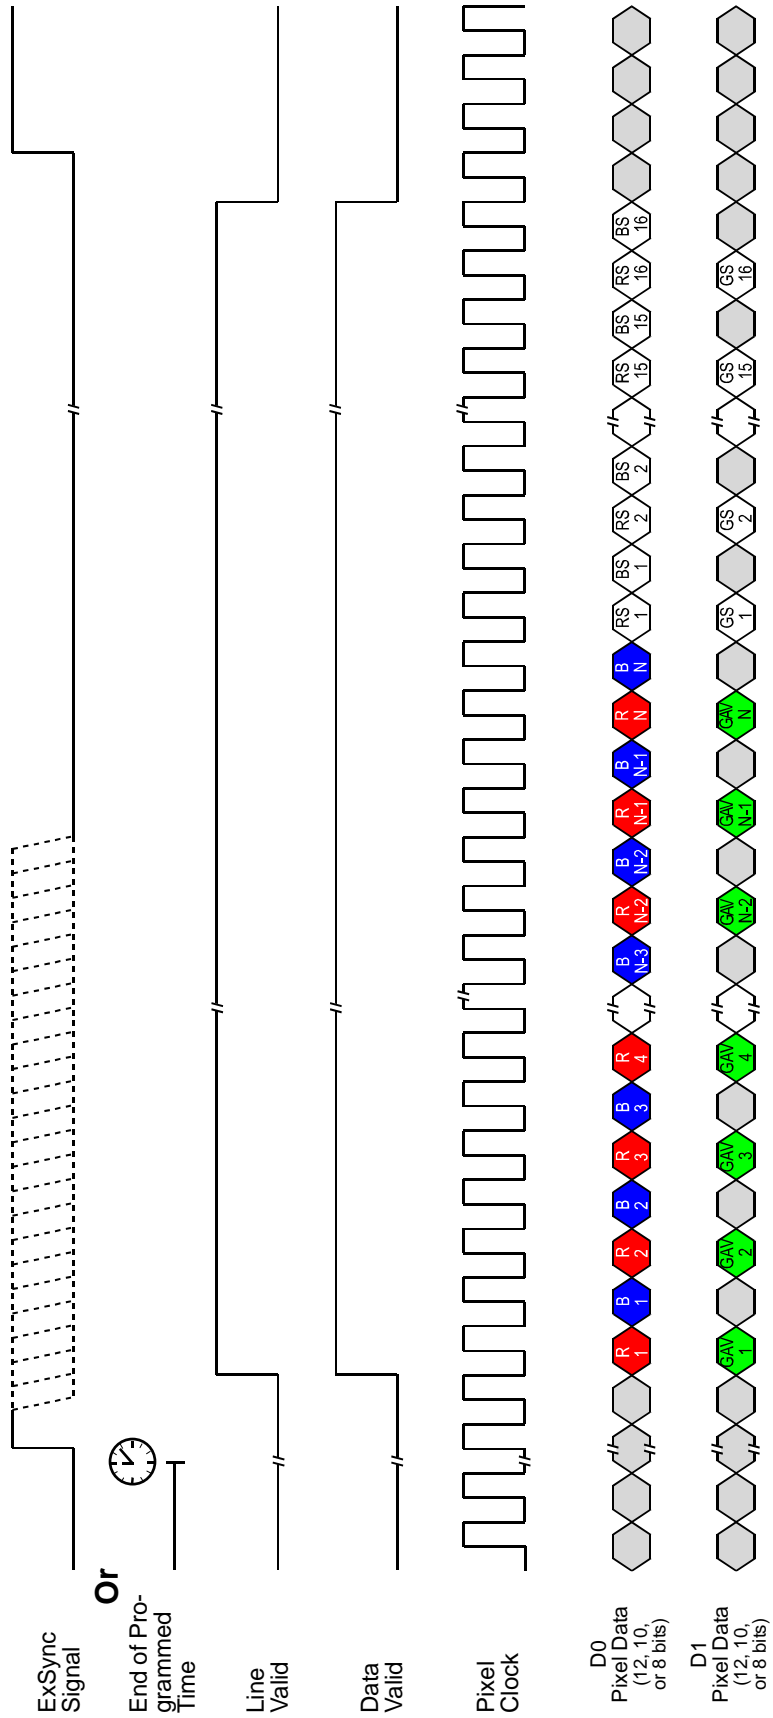

Fig. 88: Stamp Pixel Transmission with RGB Line Acquisition Mode and 2 Tap Video Data Output Mode (with Edge/Level Controlled or Programmed Exposure)
With RGB line acquisition mode, the transmission sequence of the stamp pixel values mimics the transmission sequence of the pixel values for the related colors. This is illustrated in Figure 88 through Figure 90.
- Stamp pixel values are transmitted on the same taps as the pixel values for the related colors. For example, when red pixel values (R) are only transmitted on the D0 tap, the related stamp pixel values (RS) will also only be transmitted on the D0 tap (see Figure 88 through Figure 90).
- When dummy pixel data are transmitted with the pixel values, the stamp pixel values will also be transmitted with dummy pixels in the same transmission pattern (see Figure 88 and Figure 90).